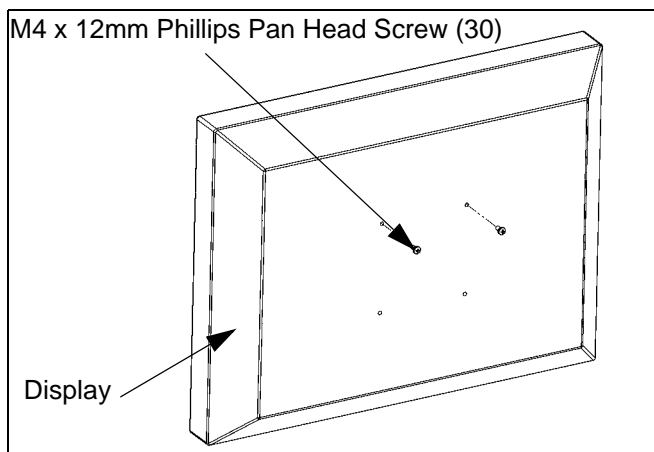

Figure 4: Prepare Display
1. Install two M4 x 12mm Phillips pan head screws (30) into two upper mounting holes in display back. (See Figure 4)